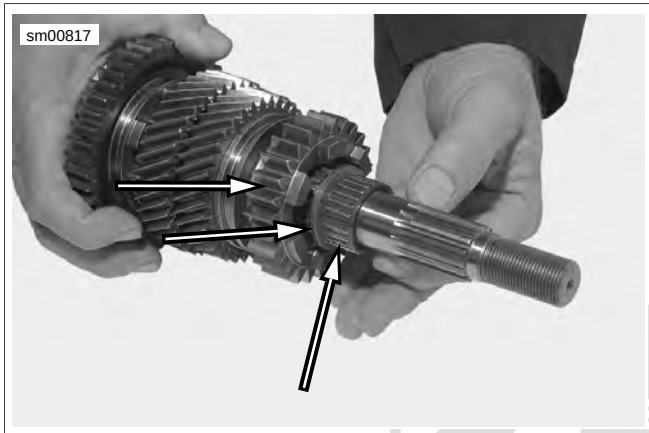

Figure 6-114. 5th Gear Installation
1. See Figure 6-114. Install 5th gear ground washer and split cage bearing.